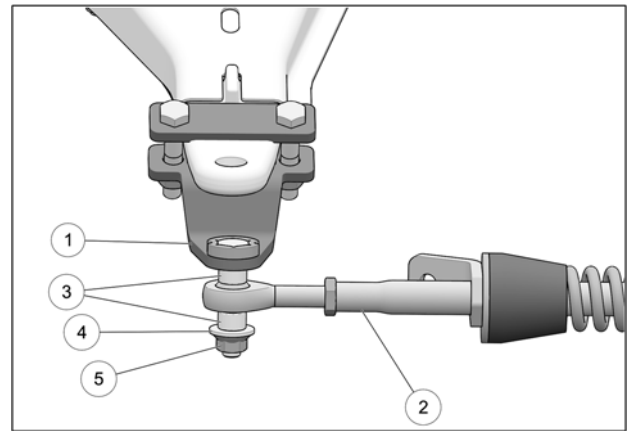

Fig. 19
13. Attach the stabilizing rod (2) to the anchor bracket (1), using the two spacer bushings (3), flat washer (4) and nut (5). Torque to 70 N•m [52 lb•ft]. Fig. 19